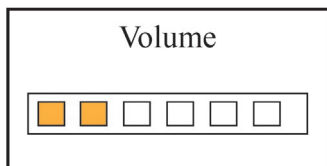

Figure 4.10B Volume setup
- Volume: To set the sound volume (including reminder sound, pulse beep sound and key click sound), 6 levels sound volume for optional, the factory default is level 3, as shown in figure 4.10B.